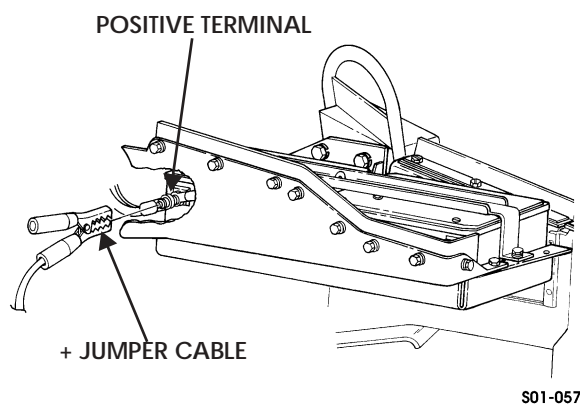

Figure 1-33: Jumper Cable
2. Connect one end of the positive (+) jumper cable to the positive (+) battery cable bolt or terminal of the booster battery (Figure 1-33).